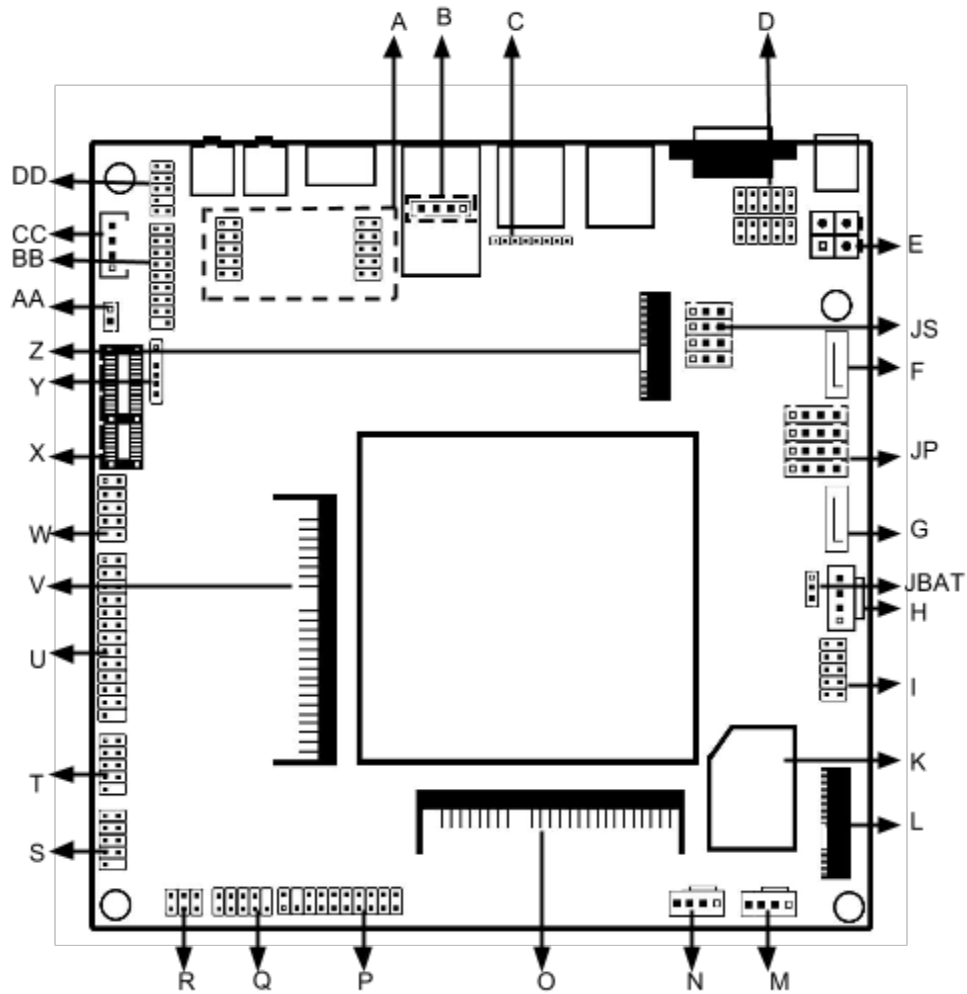

Figure 4. Connectors and Headers (top)
Figure 4 shows the locations of the connectors and headers on the top-side of the board.
Table 4 - 22 lists the connectors and headers identified in Figure 4.
Table 4. DDIO1, 2 headers (Figure. 4. A)
**Table 5. USB port header (Figure. 4. B, overridden by 2nd RJ45 LAN port)**
**Table 6. POE Ethernet port header (Figure. 4. C)**
**Table 7. DDIO3, 4 headers (Figure. 4. D)**
**Table 8. Internal power connector (Figure. 4. E)**
**Table 9. SATA data connector1 (Figure. 4. F)**
**Table 10. SATA data connector0 (Figure. 4. G)**
**Table 11. SATA power connector (Figure. 4. H)**
**Table 12. GPIO headers (Figure. 4. I)**